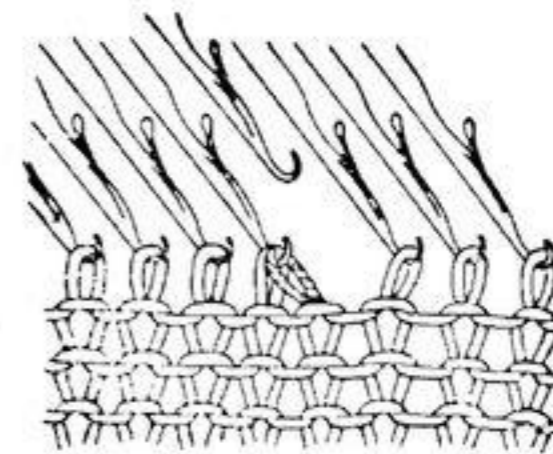

Fig. 35-5
5. By tilting the handle of the Tool upwards slide the stitch off the Transfer Tool into the hook of the needle. (Fig. 35-5)